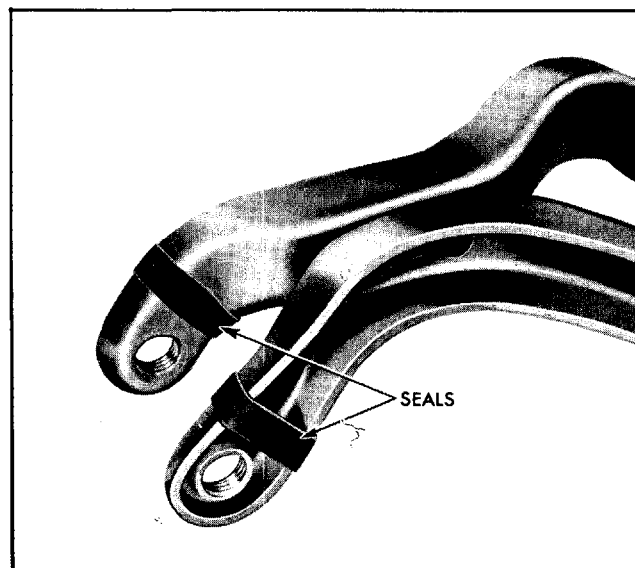

Fig. 3-15 Seals Positioned for Assembly of Pivot Pin
1. Position seals over ends of upper control arms as shown in Fig. 3-15.